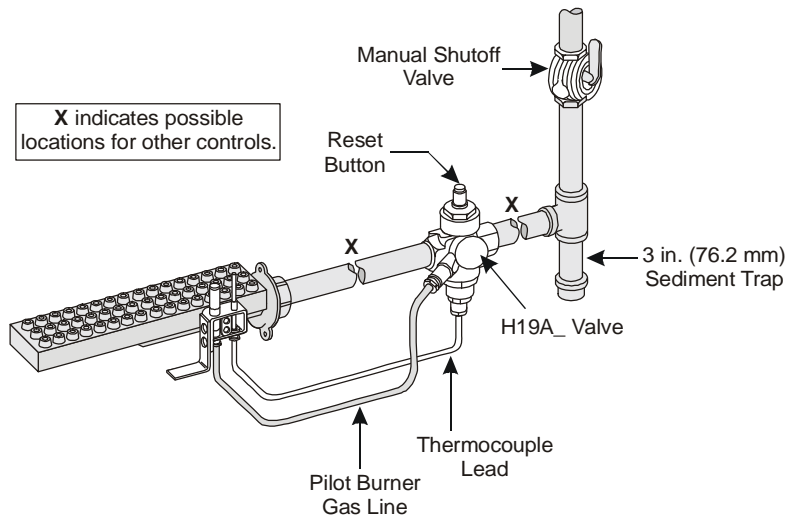
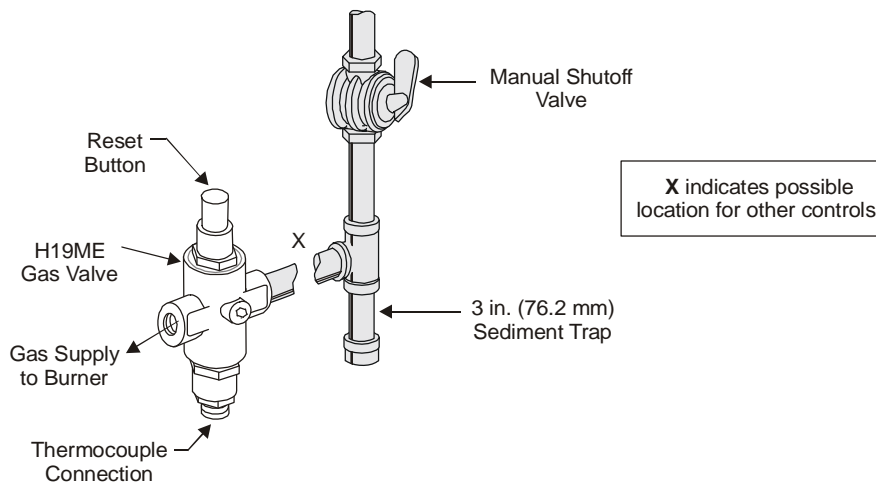

Figure 1: Typical H19A_ Installation
Figure 2: Typical H19ME Installation
4. Mount the valve to the pipework. The H19 or BGX valve may be mounted in any convenient position. Use an approved pipe joint sealing compound on male threads before assembling. Remove excess compound after mounting the valve to the pipework. Threads of the pipe and nipples must be smooth and free of tears and burrs. Steam clean all piping to remove foreign substances such as cutting oil or thread chips. A sediment trap should also be installed in accordance with the National Fuel Gas Code (Z223.1/NFPA 54). See Figure 1 and Figure 2.